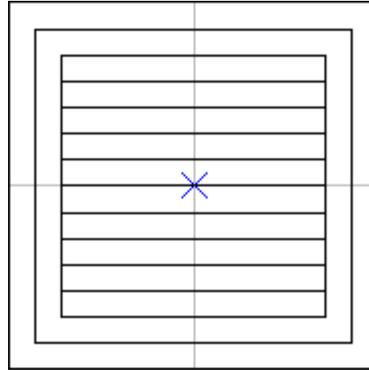

Fig. 3.2.11
**Loops:** Decide the amount of loop created inside the object according to the pitch. The hatch line will be filled in the loop. Fig.3.2.11 shows the hatch representation when this value is 2.